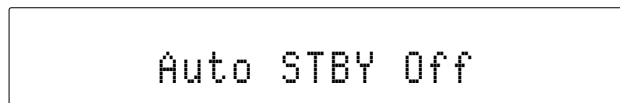

Figure 45
1. Using the MCD600 Remote Control, press and hold in the (Power) Push-button for about 5-10 seconds, at which time the Front Panel Display indicates "Auto STBY Off". Refer to figure 45.